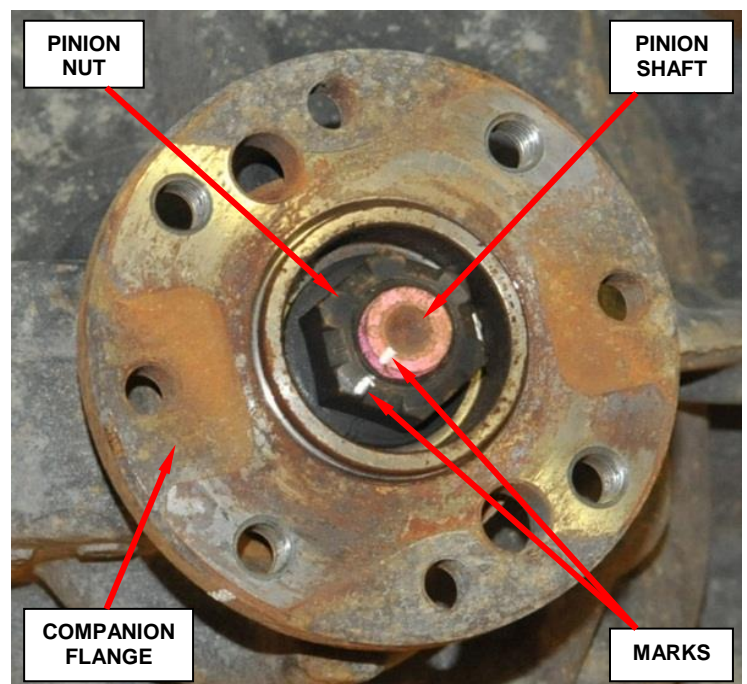

Figure 2 – Mark Pinion Nut and Pinion Shaft
6. Place a mark on the pinion nut and pinion shaft as shown in Figure 2.